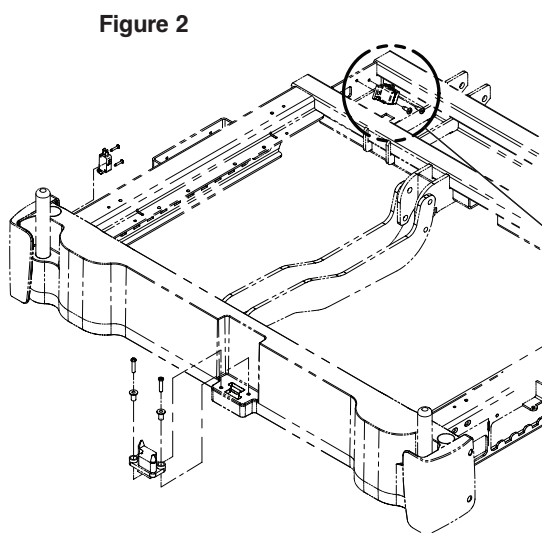

Figure 2
5. Using a Phillips screwdriver, remove the two screws securing the angle sensor to the foot frame (refer to Figure 2 above). **Note: Use caution as the cover is large and heavy.**